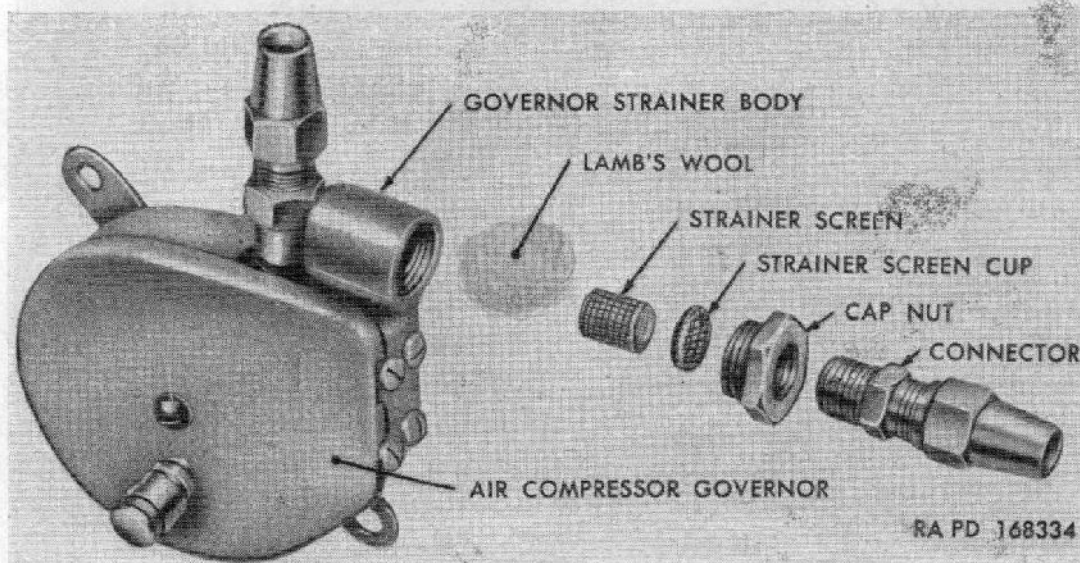

Figure 144. Air-compressor governor air strainer—exploded view.
- (2) *Governor.* Governor is a fully-enclosed bourdon type (fig. 144). It is connected in an air line between air reservoirs and compressor. When pressure in reservoirs reaches maximum, a governor valve admits air under pressure to diaphragm in cylinder head which opens unloader valves and stops compression.
(fig. 144)